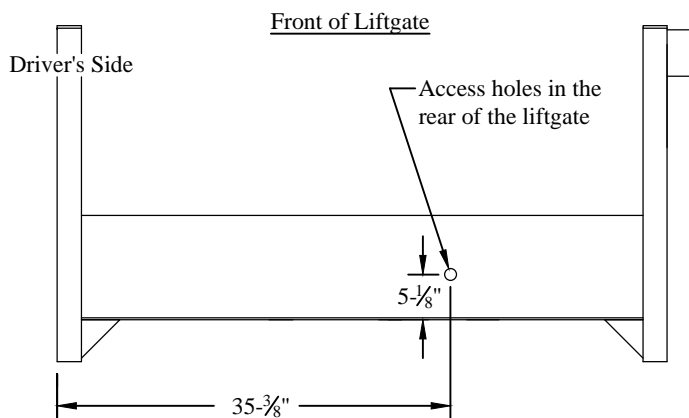

Figure 11: Spare tire access.
2. **Remove** the black plastic plug for your application (Figure 11).